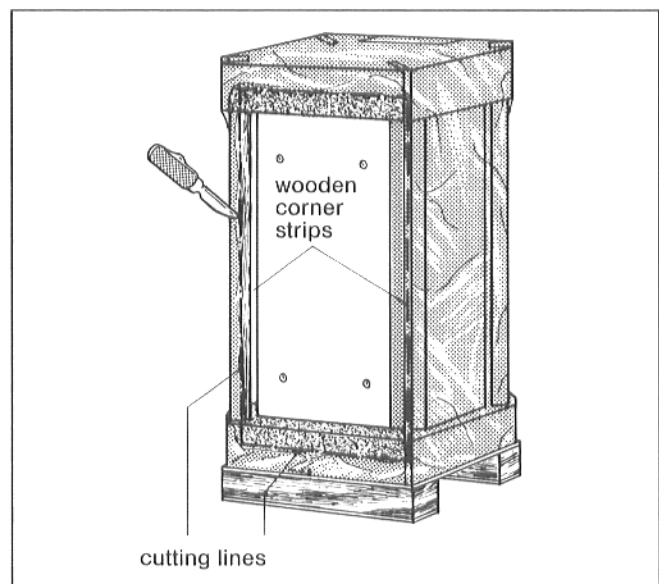

Fig. 16
- Cut out the packaging film on the side of the water "Boiler-Storage tank connection" according to Fig. 16 and remove **only the cut-out**.